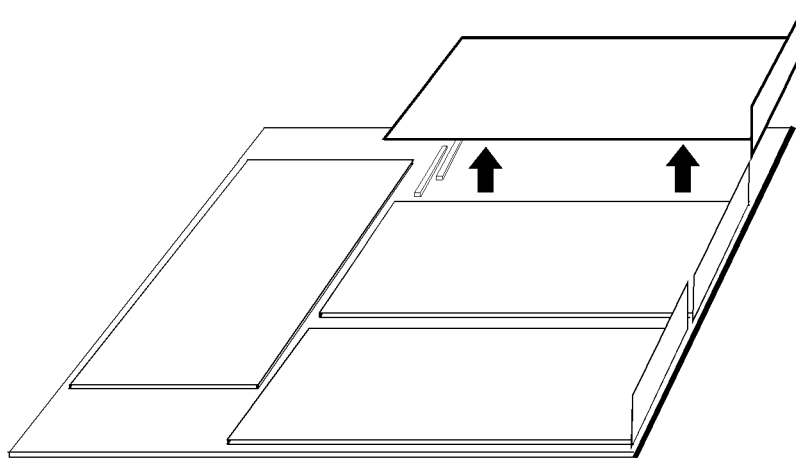

Figure 6-15. Removing the XPOD
5. Disengage the XPOD from its socket by grasping the XPOD at its rear edge and gently lifting it straight up out of its socket (see Figure 6-15). Be careful not to damage the ICM while disengaging the XPOD.
2. Align the XPOD's connectors with its socket (reversing the procedures illustrated in Figure 6-15).